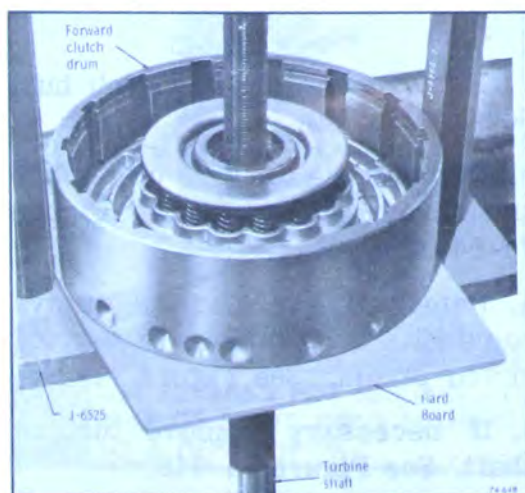

Figure 74-648
5. If necessary remove turbine shaft. See Figure 74-648.
NOTE: If turbine shaft was not removed install retainer as shown in Figure 74-648.